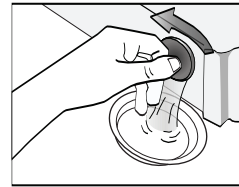

Fig 11
4. Reconnect the inlet pipe to tap. Remove the remaining water in drain pump(Fig11).